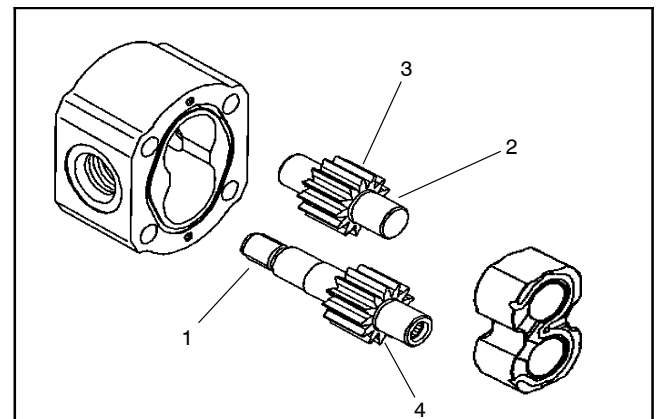

Figure 111
3. Inspect drive gears and idler gears for the following (Fig. 111):